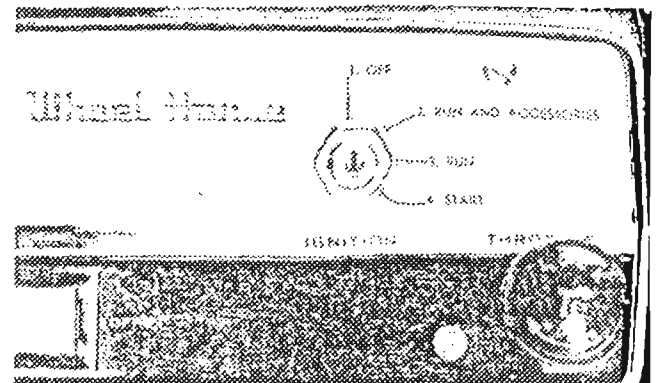

FIGURE 1
2. The tractor has a four position key starter-switch. See Fig. 1. Turn key all the way to right, position four, to start engine. After the engine starts the key will automatically return to position three, the run position. The key must be manually moved from run position to the run and accessories position, position two, before the lights, cigar lighter, or electric accessory will function. Any switch, lights, etc. inadvertently left on will automatically be turned off when the key is turned to the off position.